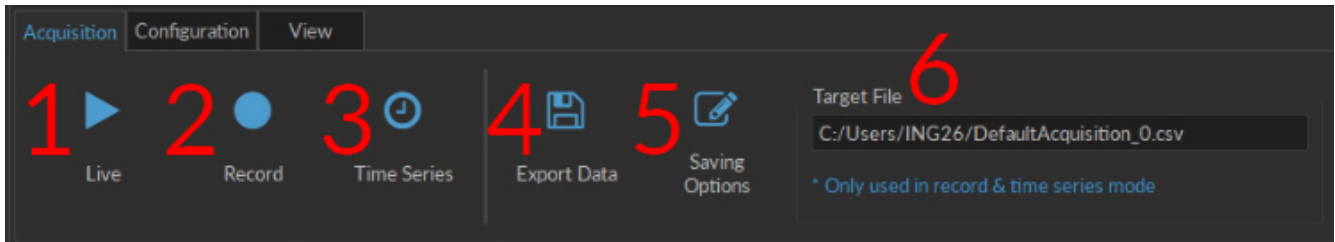
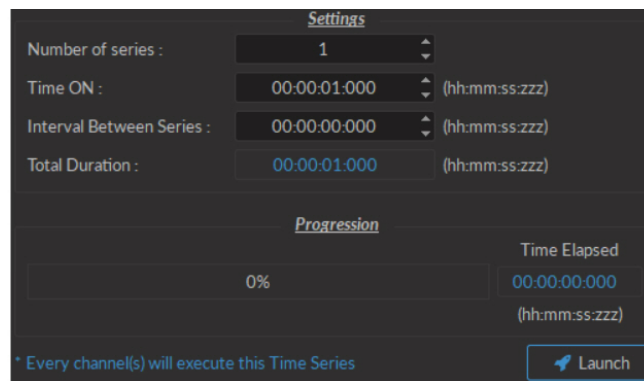
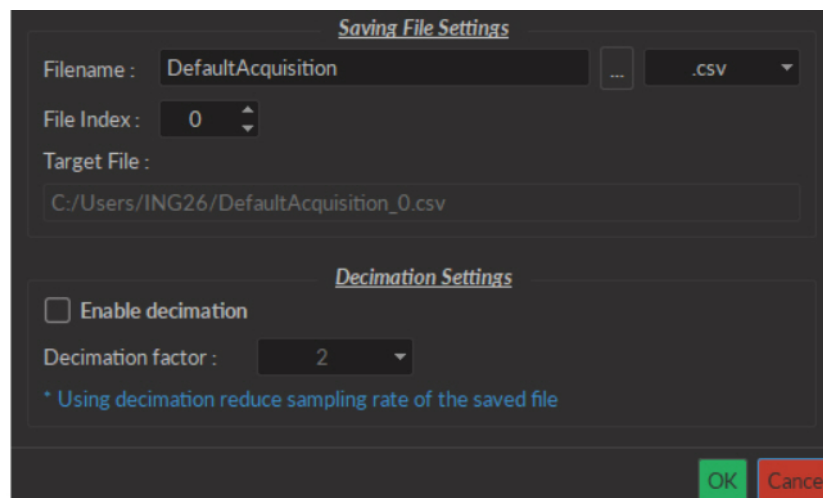

Figure 3.12: Acquisition Tab
Figure 3.14: Time Series Window
Figure 3.15: Saving Menu Window
1. The **Live** button (Fig. 3.12) activates all prepared channels. This mode does not automatically save data, keeping only the most recent 700 000 data points in memory. This mode is not recommended for long or critical measurement sequences.
2. The **Record** button (Fig. 3.12) activates all prepared channels while periodically saving recorded data to the disk. This mode is recommended for long measurement sequences.
3. The **Time Series** button (Fig. 3.12) opens the **Time Series Window** (Fig 3.14). This window allows the organisation of timed activation using the following parameters. Each **Time series** sequence is automatically saved to the same .csv file as defined in **Saving Options**.
4. The **Export Data** button (Fig. 3.12) will export all data in the **Acquisition view** into a .csv file. This is the only way to export data obtained will using the **Live** acquisition mode.
5. The **Saving Options** (Fig. 3.12) button opens the **Saving Menu** window (Fig. 3.15).
6. The **Target File** box (Fig. 3.12) displays the save location and name used for files obtained using **Record**.